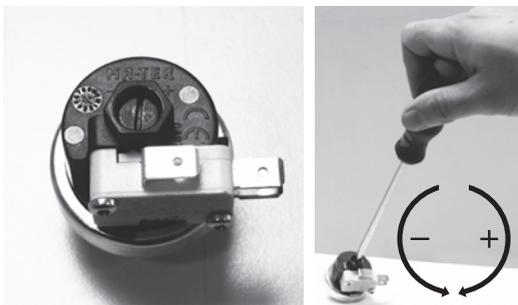

Fig.9
6.2 Regulating Pressure/Temperature* (fig.9) **only for leverage machine**